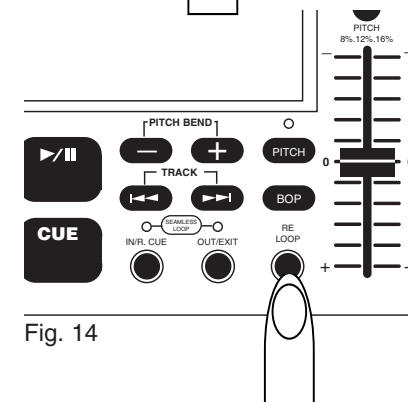

Fig. 14
The **RELOOP (16)** function allows you to return to your stored loop at any time. The **IN/R CUE (12)** and **OUT/EXIT (14)** LEDs will indicate a loop is stored in memory, and may be played at any time. To replay the loop, press the **RELOOP BUTTON (16)**. The **IN/R. CUE (12)** and **OUT/EXIT (14)** LEDs will again begin to flash indicating SEAMLESS LOOP mode has been activated (Fig. 14) and your stored loop will immediately begin to play.
Please note you can only edit the ending point of the loop. You may make your loop shorter or longer. Before you can edit your seamless loop you obviously must first have created a seamless loop to edit. If you haven't created a SEAMLESS LOOP, follow instructions on page 11 "**creating and play a seamless loop**". If a SEAMLESS LOOP has already been created, press the **RELOOP BUTTON (16)** to restart your SEAMLESS LOOP (Fig. 14) if it is not already playing. To edit your seamless loop's ending point: